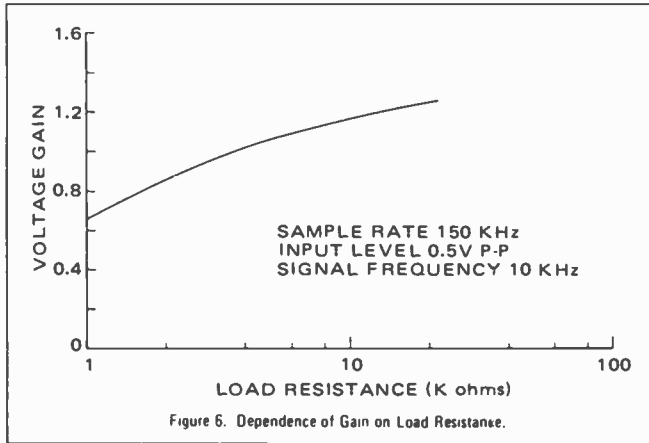

Figure 6. Dependence of Gain on Load Resistance.
- The value of gain depends on the output termination resistance. See Fig. 6
Figure 6 shows the loading effect of the output terminating resistor. The data indicates the output source followers have approximately .400 ohms internal impedance. For this test, each output was connected through a terminating resistor to ground, thus isolating any interaction between the two output followers.